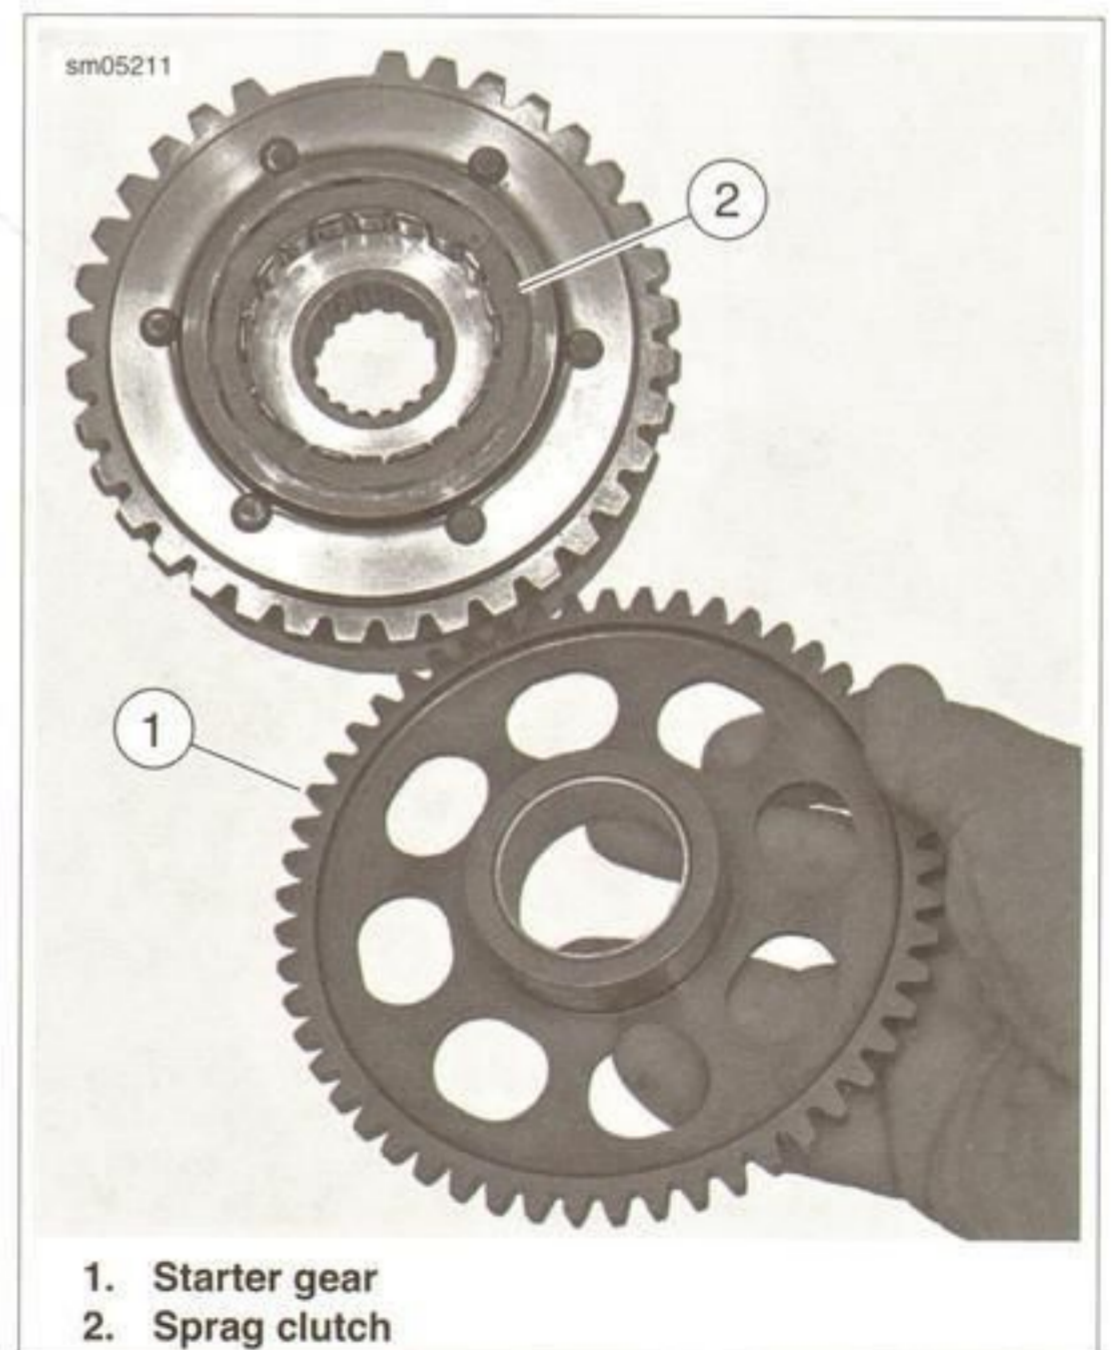

Figure 7-33. Sprag Clutch on Rotor and Starter Gear
10. See Figure 7-33. Remove the starter gear from the rotor assembly.